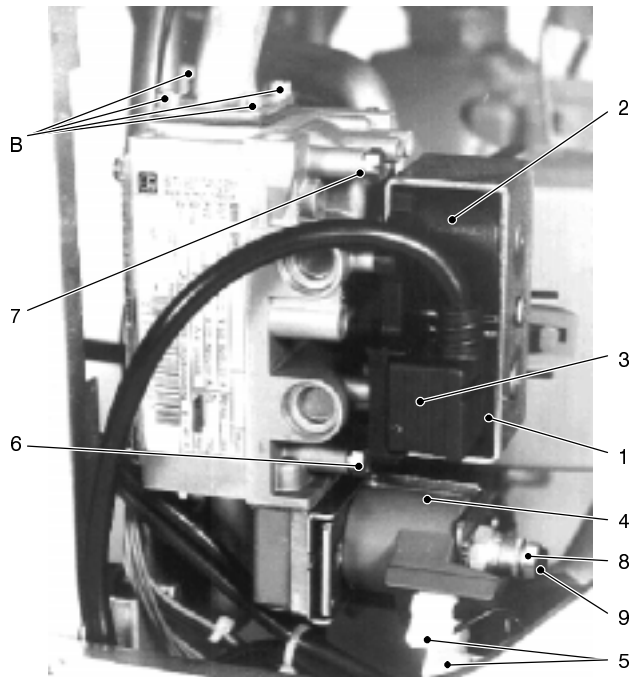
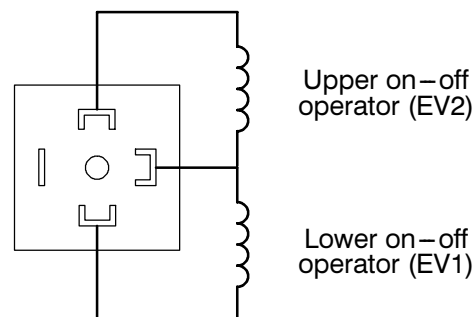

fig. 55
fig. 56
The terminals of the connector "3" (fig. 55) are connected to the operators as illustrated in fig. 56.
- 4 remove the four cylindrical head screws *B* (fig. 55) that fix the valve to the top flange